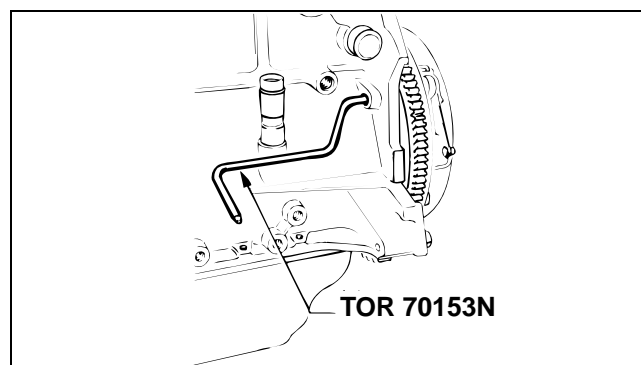

Figure 56
10. Slowly turn the crankshaft in the operating direction (clockwise as viewed from the timing belt end) until the TDC Lock Pin tool (TOR 70153N) goes into the hole in the flywheel (Fig. 56).
15. Slowly turn the crankshaft in the operating direction (clockwise as viewed from the timing belt end) until the TDC Lock Pin tool (TOR 70153N) goes into the hole in the flywheel (Fig. 56).